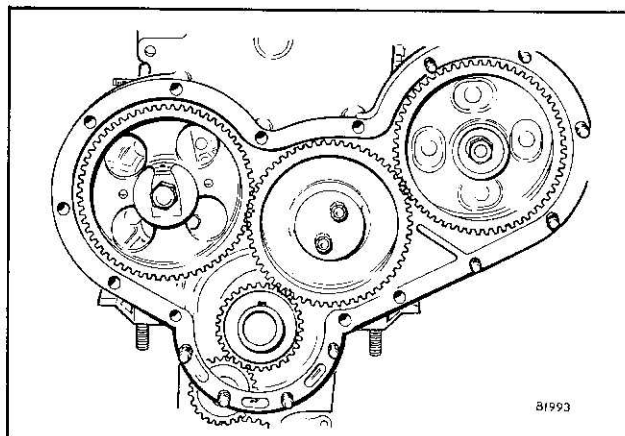

Fig. 7
3. Fit the timing gears ensuring the timing marks are correctly aligned, Fig. 7, and tighten to torque given in 'Data'. If the cylinder head is fitted and the crankshaft and/or camshaft have to be turned, then the rocker assembly may have to be released.